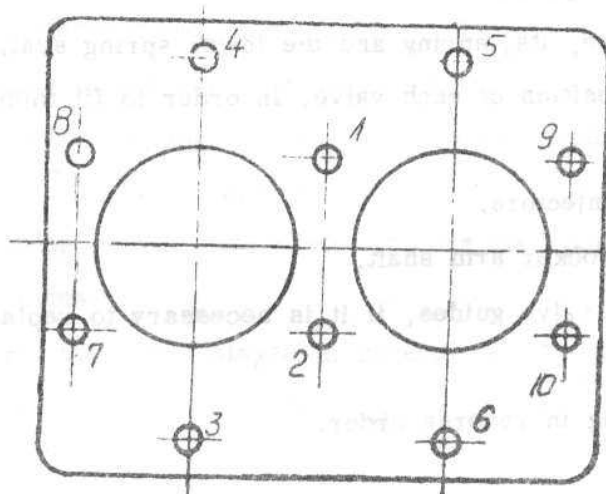

Fig. 4.81. TIGHTENING ORDER OF CYLINDER SECTION
- On refitting cylinder heads on block, the bolts should be tightened with a torque of 11.5 - 12.5 m.daN (83.2 - 90.4 ft.lb) in the tightening order indicated in Fig. 4.81.